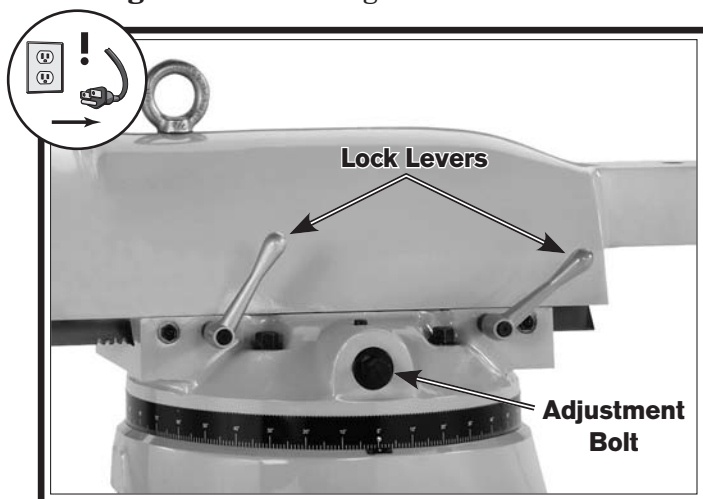

Figure 31. Ram back-and-forth movement controls.
2. Loosen the two lock levers shown in **Figure 31** on the right side of the ram.